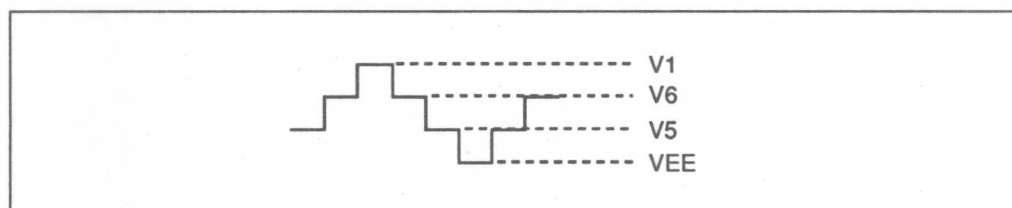

Figure 1 Different Power Supply Voltage Levels for LCD Drive Circuits
**V1, V5, V6:** Supply different levels of power to drive the LCD. V1 and VEE are selected levels, and V5 and V6 are non-selected levels. See figure 1.